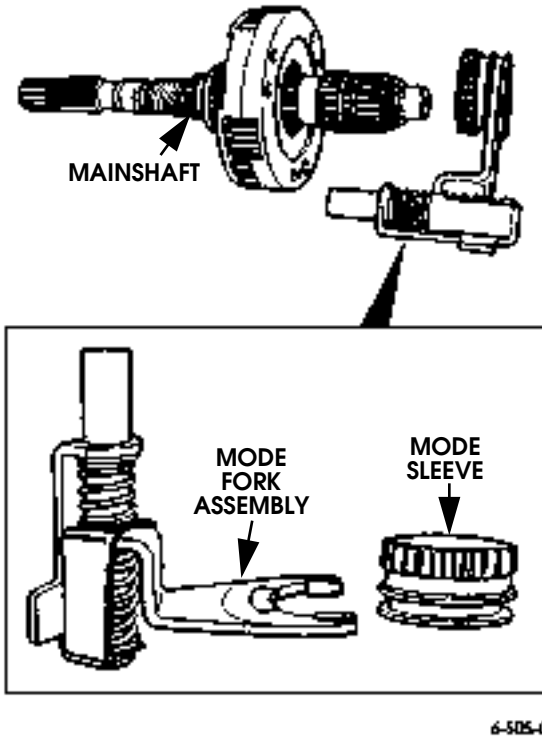

Figure 5-98: Mode Fork and Sleeve Removal
- 20. Remove mode fork and sleeve from mainshaft (Figure 5-98). Note position of sleeve for installation reference. Do not disassemble fork assembly. Only the fork pads are serviceable.